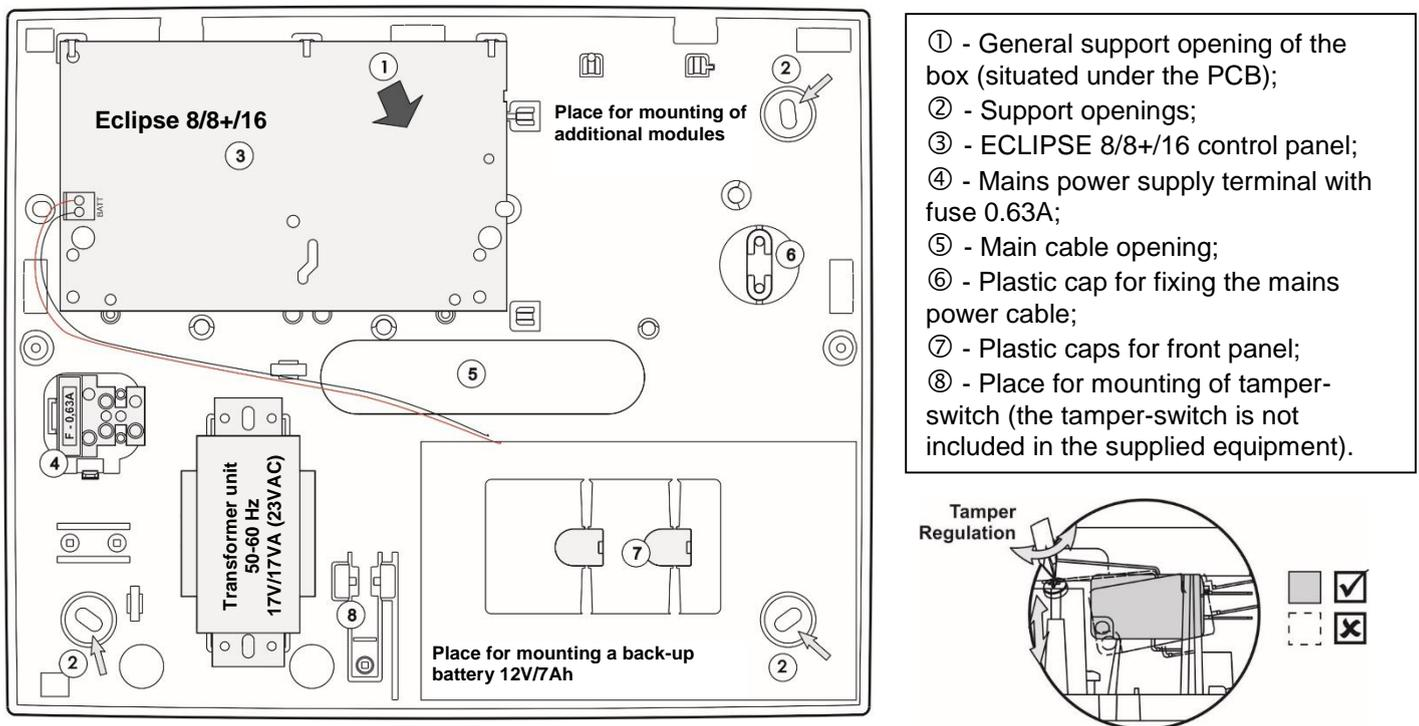

Figure 1. ECLIPSE 8/8+/16 box elements
In ECLIPSE 8/8+/16 final closing, use the supplied screws in the spare parts kit to fix the front cover to the mounted bottom. Use the plastic caps (position ⑦ at Figure 1) previously broken out from the box bottom to hide the screw heads at final closing.